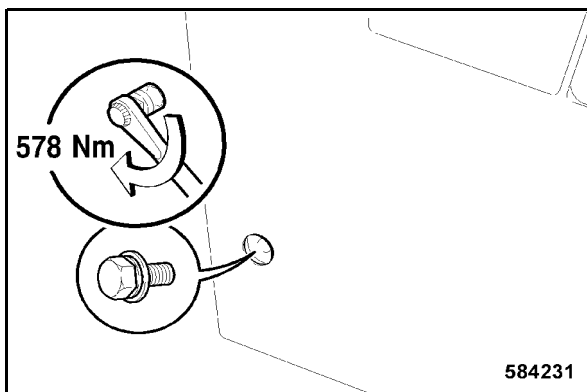

Fig. 216
- Tighten the rear lateral fastening screw on the right hand side with 578 Nm (Fig. 216).